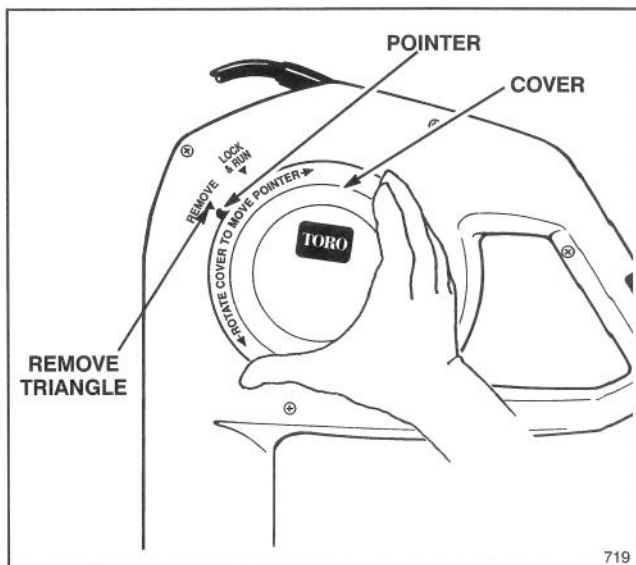

Figure 14
5. Position the inlet cover in the slotted ring so that the black pointer on the cover lines up with REMOVE triangle on the housing (Fig. 14).